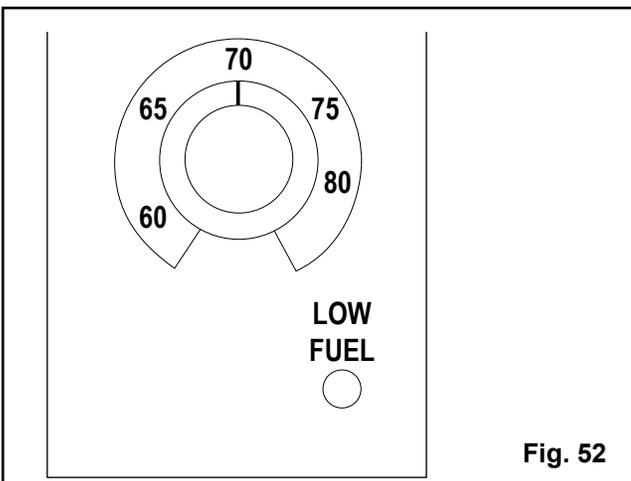

Fig. 52
7. Turn the **Temperature Dial** on the wall control to desired room temperature. Note: The set temperature on the dial must be higher than the room temperature for the fire to light, Fig 52.